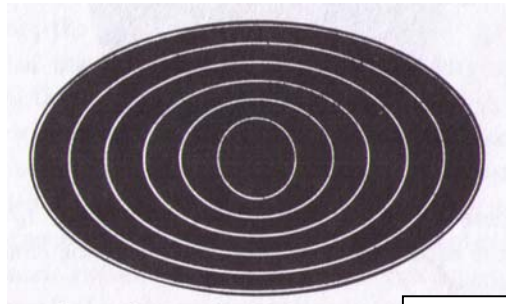

Fig. 4.
3. To form two or more ellipses of different size but equal proportion, it is necessary to adjust both the radius of the slide-rest and the off-set of the cam-ring so as to maintain the same ratio as that of the first ellipse [e.g. if Minor Axis = 1.6" and Major Axis = 2.4" (ratio = 2:3); an increased slide-rest radius of 0.2" (to 1.0") will require an increased cam-ring off-set of 0.1" (from 0.4" to 0.5")]. This method may be useful when placing inner and outer rows of ornamentation upon a surface (see Fig. 4).